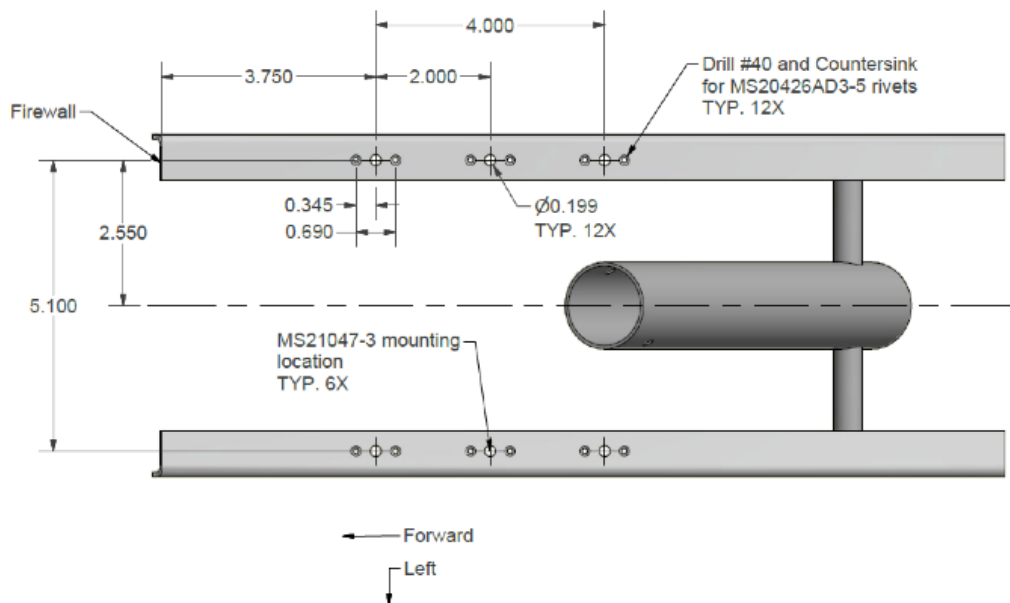

Figure 3-2
- 2.2. Drill, countersink and debur the center tunnel flanges as shown in figure 3-2.